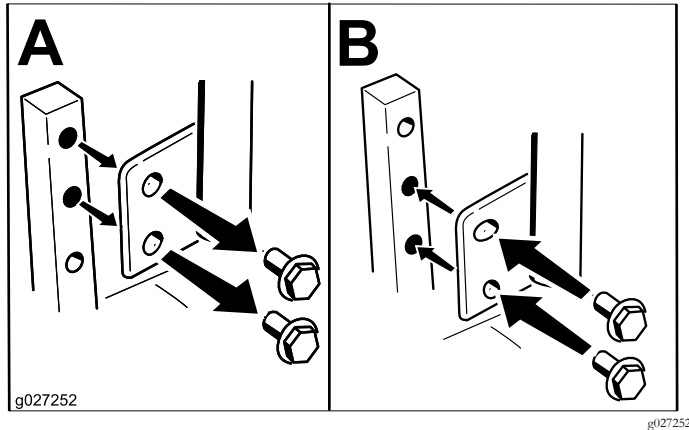

Figure 11
You can adjust the motion-control levers higher or lower for maximum comfort (Figure 11).
2. Loosen the lower bolt just enough to pivot the control lever forward or rearward (Figure 11).